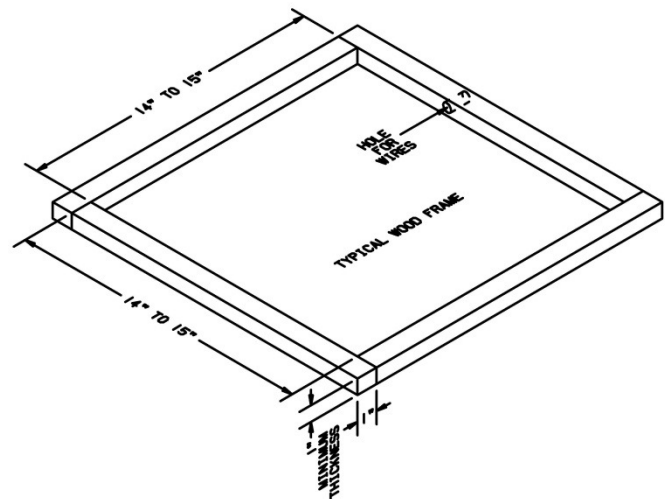

FIGURE 1
3. Examine the roof opening. If the opening is smaller than 14" x 14", the opening must be enlarged. If the opening exceeds 15" x 15", a mounting frame must be field fabricated to reduce the opening size (See Figure 1).
B. If a roof vent opening is not used, a new opening (See Figure 1) will have to be cut into the vehicle roof. A matching opening will also have to be cut into the interior vehicle ceiling. Be careful when cutting the ceiling opening. If the ceiling opening is carpeted, snagging could occur. After the opening in the roof and interior ceiling are the correct size, a framed support structure must be provided between exterior roof top and interior ceiling. The reinforced framed structure must provide the following guidelines:
Airxcel, Inc. 49000 series requires that the spacing from the vehicle roof top to the interior ceiling be no less than 1". A typical support frame is shown in Figure 1.